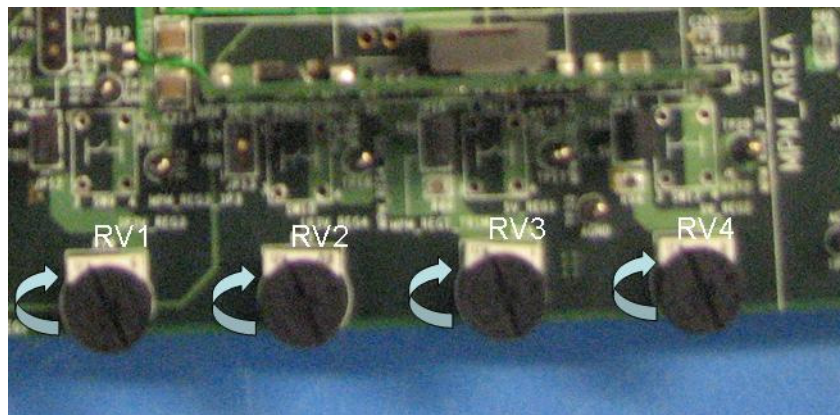

Figure C-27 · Turn POTs RV1 – RV4 Clockwise
19. Turn POTs labeled RV1, RV2, RV3, and RV4 clockwise all the way to the right, as shown in Figure C-27.